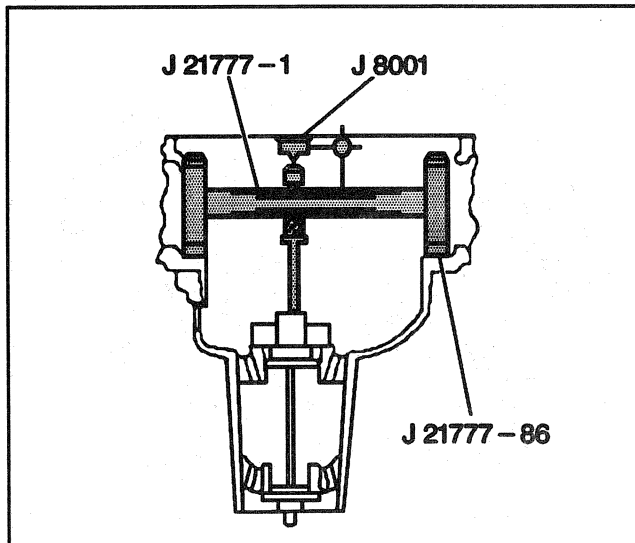

Figure 13—Pinion Depth Tools
8. Assemble J 21777-86, J 21777-1, and J 8001 to the differential bearing bore (Figure 13).